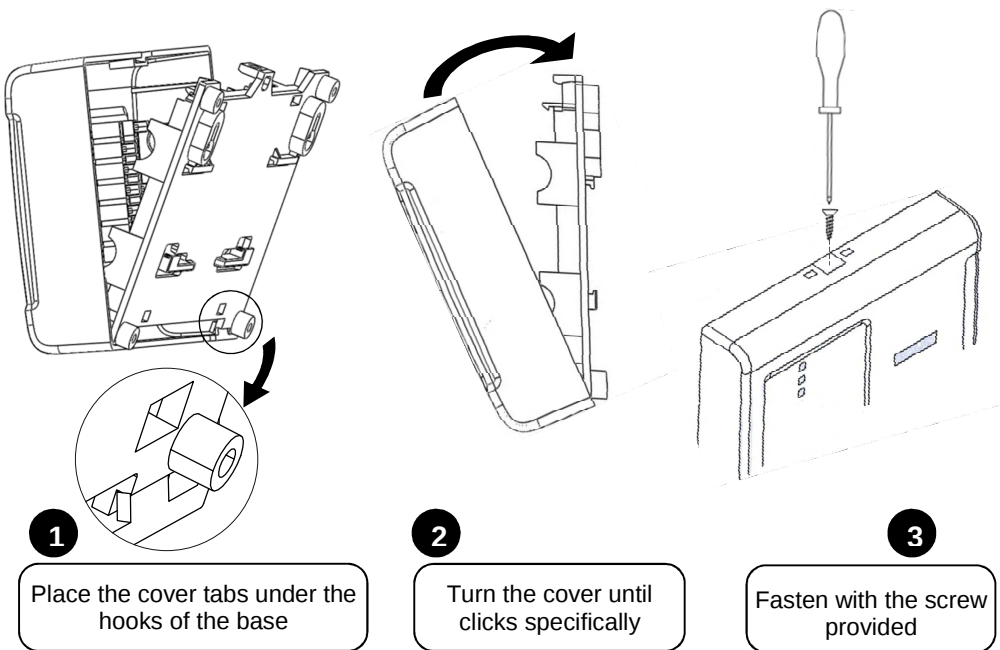

Figure 25. Closing the Controller's Cover
4.13 Close the cover of the controller as shown in Figure 25.